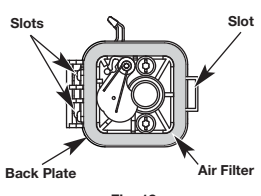

Fig. 18
- Remove the air filter (Fig. 18).
- Replace the filter (Fig. 18).
- To reinstall the air filter cover, position the hooks on the left side of the air filter cover into the slots at the left side of the back plate (Fig. 18).